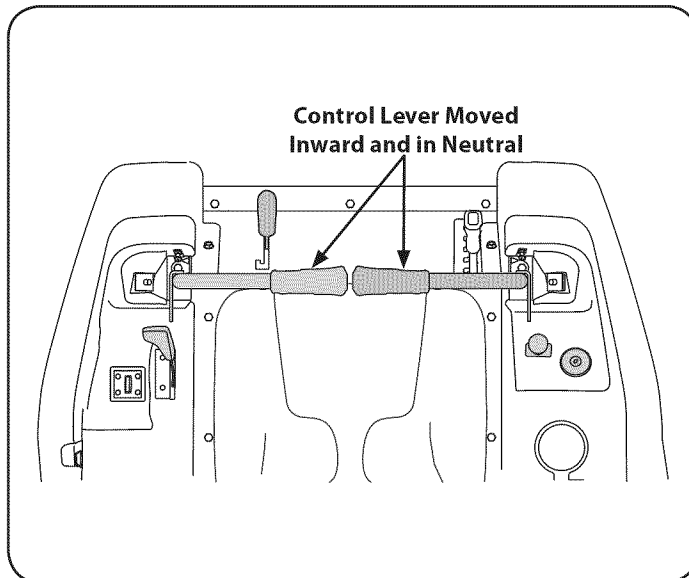

Figure 13
3. Move the RH and LH drive control levers inward in the neutral position. Refer to Figure 13.